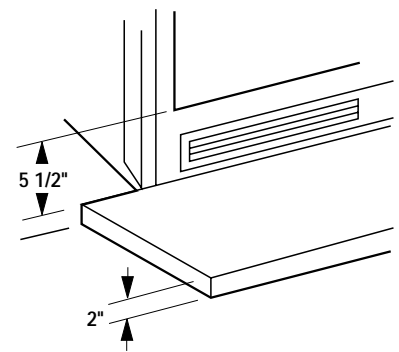

Figure 50
**WARNING: WHEN INSTALLING HEARTH EXTENSION IN FRONT OF A CIRCULATING FIREPLACE MODEL, THE FIREPLACE MUST BE RAISED IF HEIGHT OF HEARTH EXTENSION EXCEEDS 2" ABOVE BOTTOM OF FIREPLACE (FIGURE 50).**